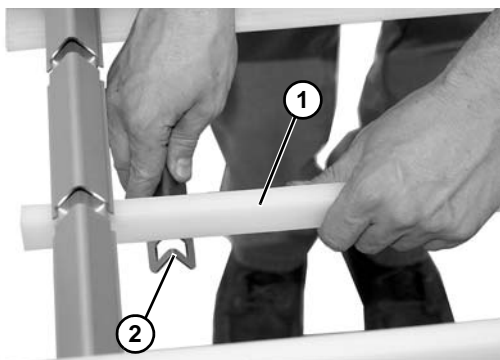

Figure 40
1. Remove return strips (**Figure 40, item 1**), from brackets (**Figure 40, item 2**).